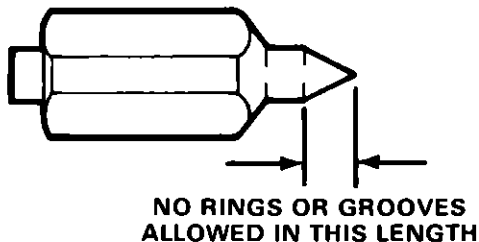

Figure 23. Inspecting Float Needle
- B Inspect needle valve face for grooves or rings. Figure 23.